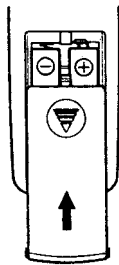

Fig. 3
- ③ Close the battery cover. (See Figure 3.)